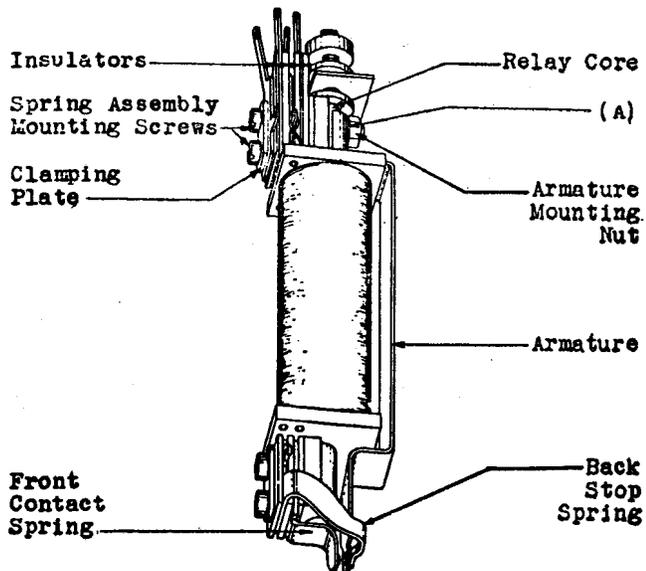

Fig. 2 - 194-type Relay
**2.09 Relay Mounting:** Fig. 2(A) — The armature shall be fastened securely to the relay core and the relay shall be fastened securely to the mounting strip.